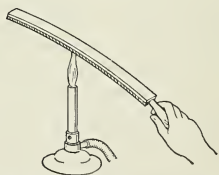

Fig. 166. The compound bar curves because one metal expands more than the other.
**The thermometers with dials.** The expansion of metals upon heating may be used to measure temperature. If two strips of metal, one of iron and one of brass, are firmly fastened together, they form a *compound bar* (Fig. 166). When such a bar is heated, the brass expands more than the iron, and the